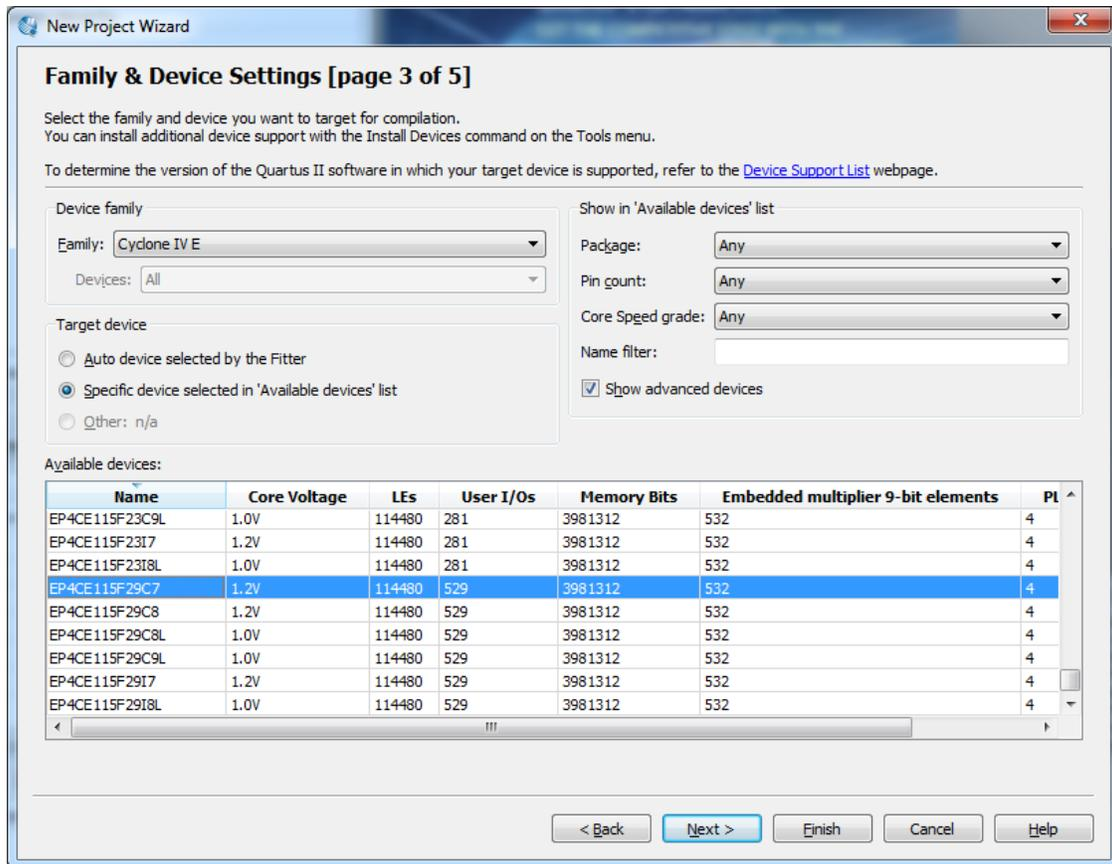

Figure 6. Choose the device family and a specific device.
- i) The wizard makes it easy to specify which existing files (if any) should be included in the project. Assuming that we do not have any existing files, click **Next**, which leads to the window in Figure 6.